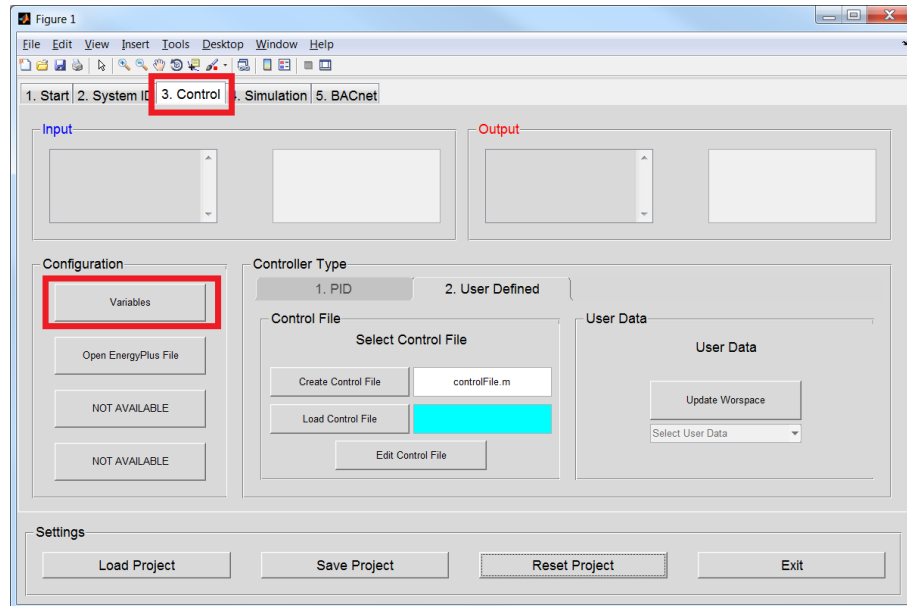

Figure 5: MLE+ control design tab.
1. Select the Control Tab (Figure 5)